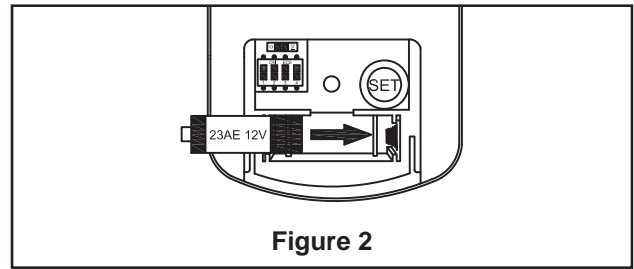

Figure 2
2. To make the fan operational, install 23A/12V battery (included) into the hand-held remote transmitter (If not used for long periods of time, remove the battery to prevent damage to the transmitter). With fan power off, arrange code switches to the desired code setting. Then, follow the remote code setting process. Store the remote away from excessive heat or humidity. (Figure 2)
2. Unplug the signal wire and 9-pin connector, then replace the old receiver with the new receiver. (Figure 2)